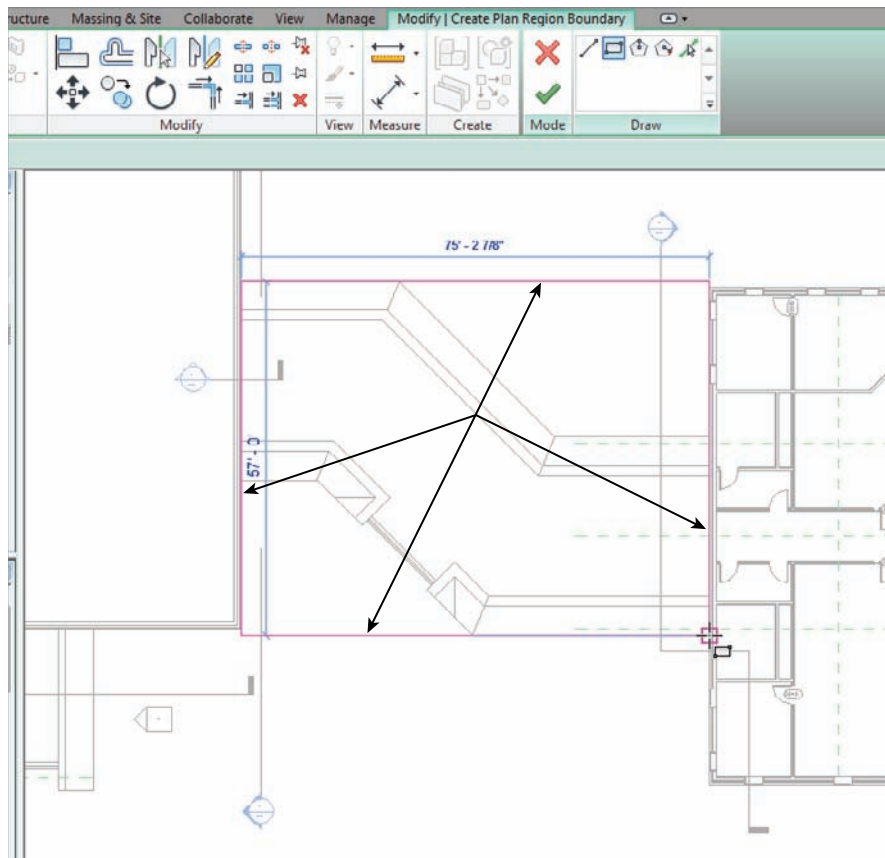

FIGURE 7.35 Creating the rectangle that forms the perimeter of the plan region
3. On the Draw panel, select the Rectangle button, as shown in Figure 7.35.
4. Draw a rectangle around the corridor, as shown in Figure 7.35. Be sure to snap to the exact points where the roof meets the taller walls on the east and west wings.